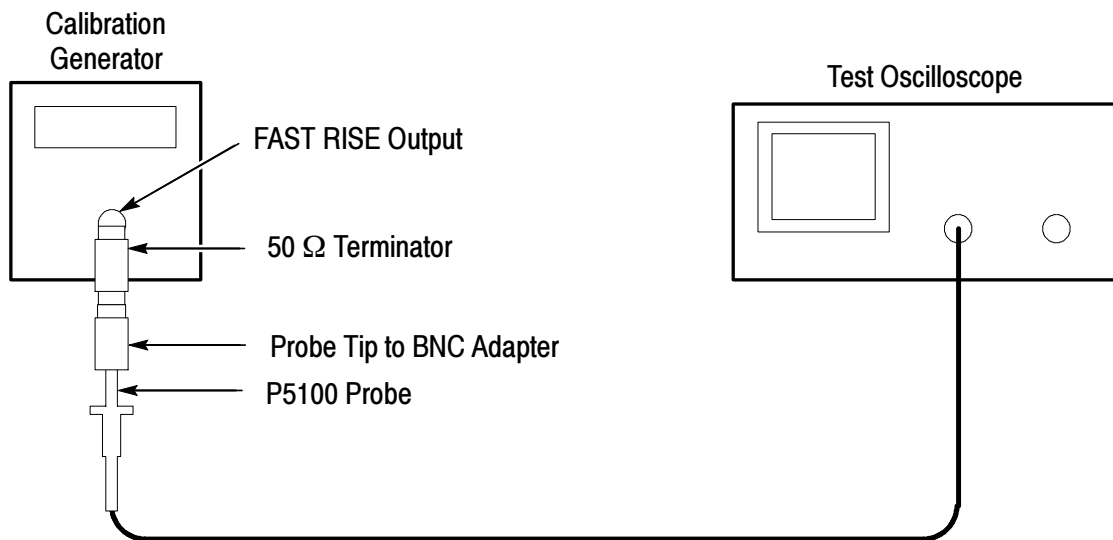

Figure 6: HF Adjustment Setup
1. Connect a 50 Ω feedthrough termination to the positive going **FAST RISE** output of the calibration generator. See Figure 6.